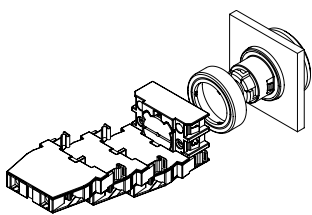

Fig. 2
2. Mount contact elements of EF contact system by snapping on in positions 1 to 3 to mounting flange (see Fig. 2). Middle position (pos. 3) is reserved for mounting lighting elements on devices with lights (see fig. 3).